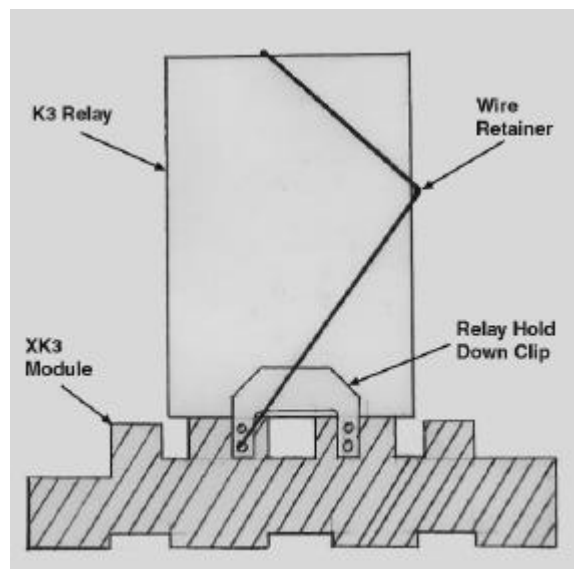

Figure 2 High Power Relay Side View
5. Into each side of the XK3 socket, push in the relay hold-down clips. Refer to figure 2.
7. Install the wire retainer over the K3 relay, and attach it to the relay hold-down clips. This wire will secure the K3 relay to the XK3 socket. Refer to figure 2.